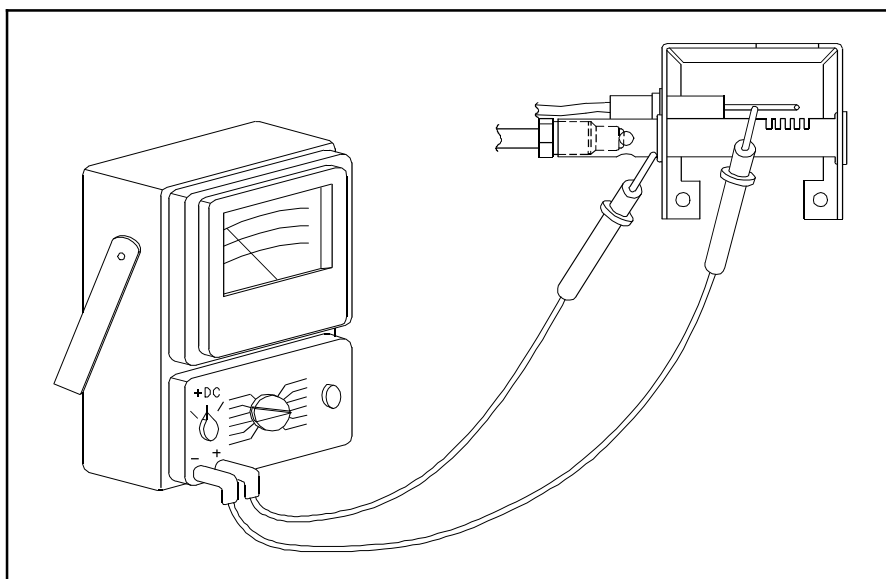

Figure 11.49 Electrode Grounding Check
26. Check the Ignition electrode shown in Figure 11.49 for a short to ground.
- Check the continuity to ground as shown in Figure 11.49.
28. Check that the Burner and Orifice shown in Figure 11.49 are not obstructed.